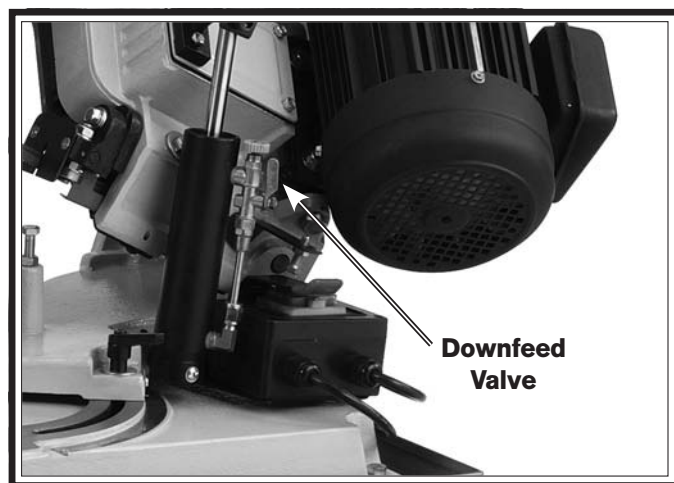

Figure 23. Downfeed valve location.
3. Open the downfeed valve (**Figure 23**) and allow the headstock to travel all the way down. If the blade contacts the machine base, adjust the downfeed stop bolt as described in **Downfeed Stop Bolt**, on **Page 37**.